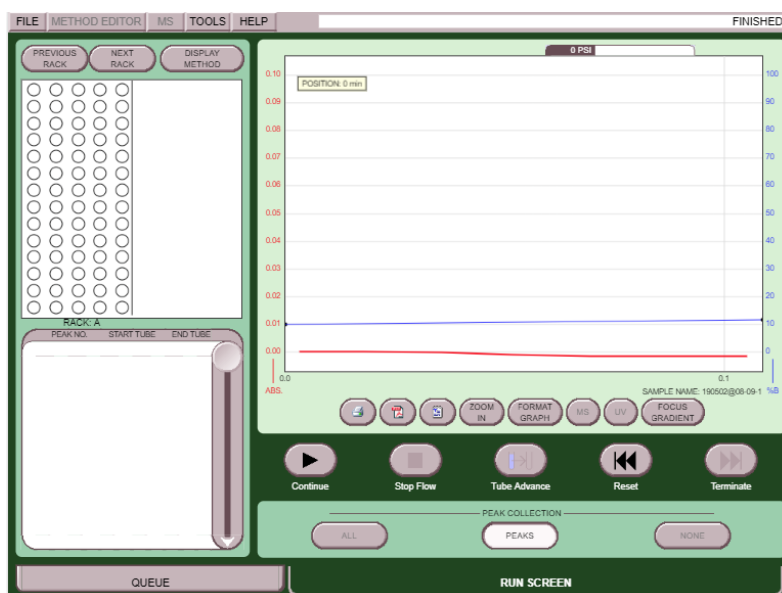

Figure 2-7 Focus Gradient Generator at End of Run
1. On the bottom right select the FOCUS button (Figure 2-7).